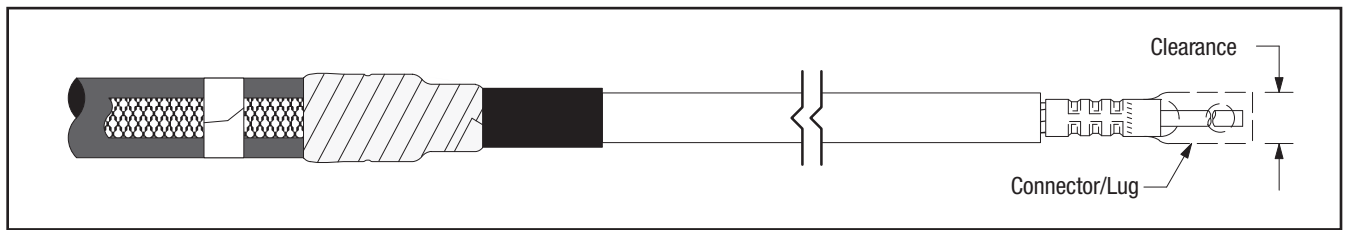

Figure 14
- 9.1 Check to insure 3M™ Cold Shrink QT-III Silicone Rubber Termination assembly fits over the selected lug or connector. If lug or connector (Figure 14) will not fit through the termination core, clean the insulation (per Step 10.0) and slide termination on cable before installing lug or connector. **DO NOT REMOVE CORE AT THIS TIME.**